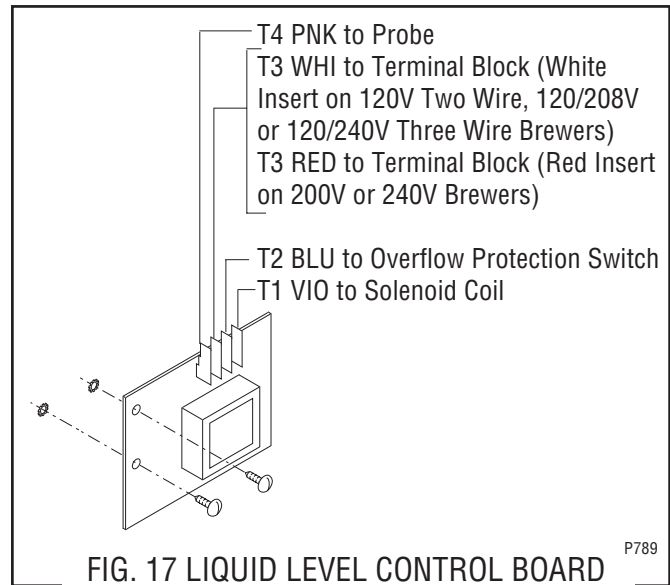

FIG. 17 LIQUID LEVEL CONTROL BOARD
4. Refer to Fig. 17 when reconnecting the wires.